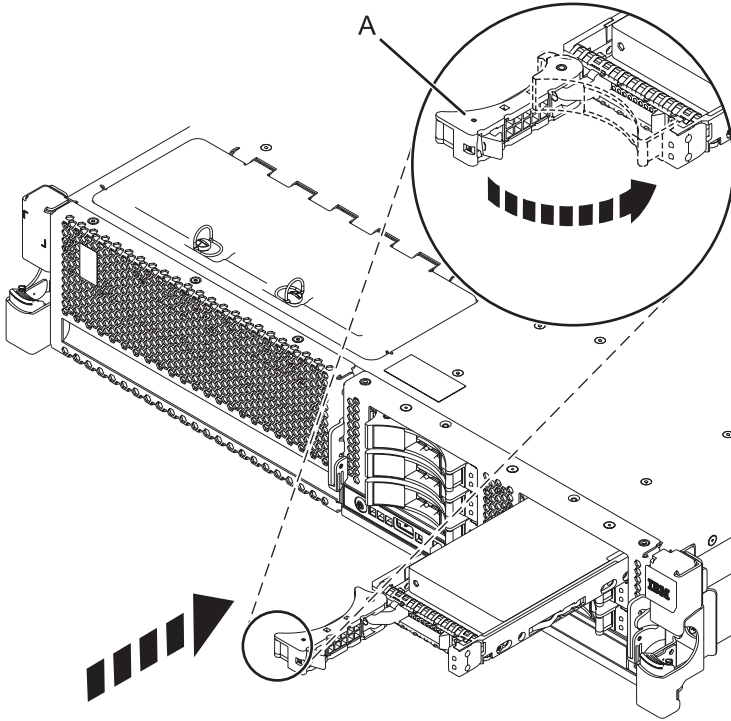

Figure 5. Installing the disk drive in the system
6. When the identify LED flashes, slide the drive all the way into the system or an expansion unit, and push the drive handle (A) in until it locks, as shown in Figure 5 on page 12.